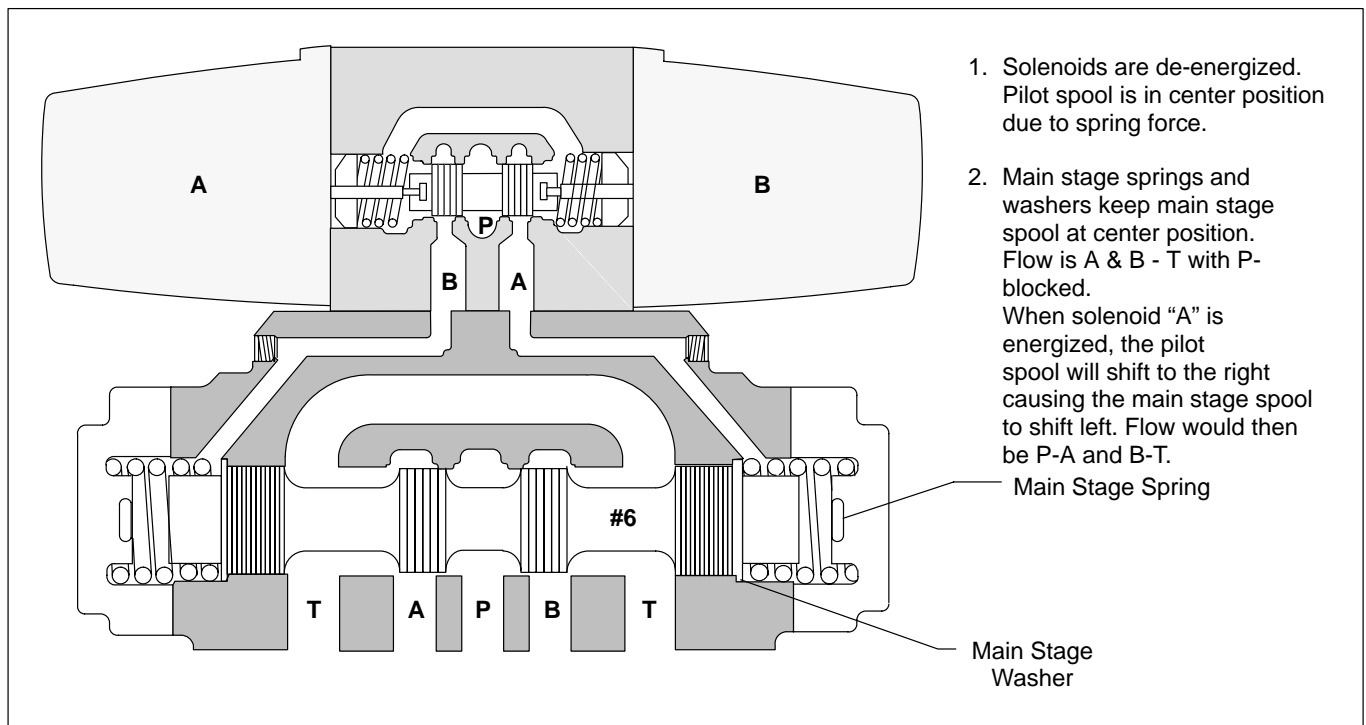

Figure 5. Spring Centered "C" Model
2. **Spring Centered:** A spring and washer arrangement is used on both ends of the main stage spool in the spring centered configuration. If control pressure is removed from a spring centered spool, the valve will go the center position due to spring force. Two configurations of a two-stage spring centered valve can be obtained, a type "B" and a type "C". If one solenoid is used on a spring centered pilot valve, the model code is identified with the letter "B". When two solenoids are used, the model code is identified with the letter "C". Figure 5 illustrates spool positioning of a two-stage spring centered "C" model (i.e. DG5S4-062C-**-51).